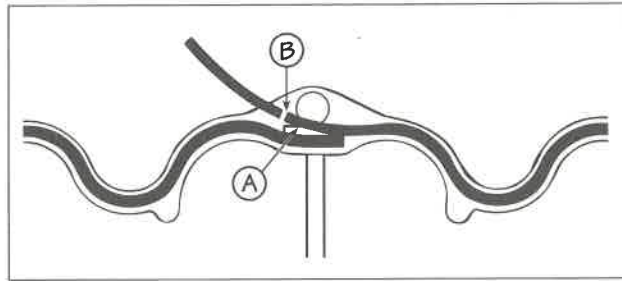

FIG. 21
Clean the top of the cylinder head. Install the Jacobs spacer gasket into the groove (A) in the spacer. Overlap the gasket (more than 1/2" but less than 3/4") and cut (B) to length (see Fig. 21).